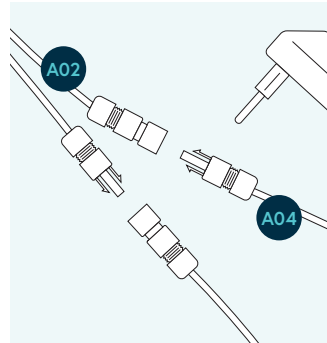

FIGURE 07
1. Connect the MC4 connectors of the power cable **A02** to the MC4 connectors of the wall mount adapter cable **A04** (fig 07).